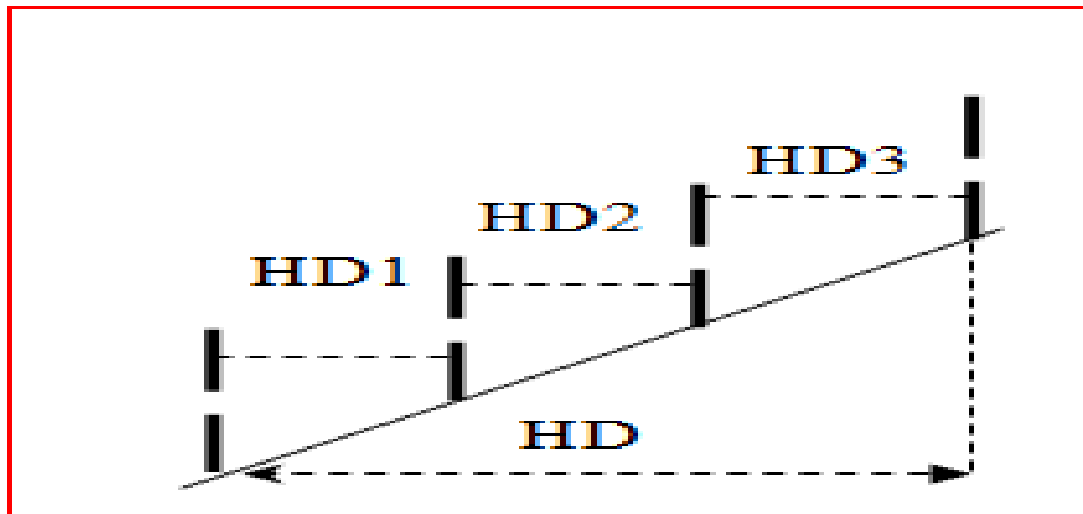

Figure 2.6 Direct measurement of horizontal distance
- If there are breaks in slope along the survey line as shown in Figure 2.6, slope and distance measurements are taken for each slope class separately using water level, string and measuring tape
- The sum of the horizontal distances is equal to the horizontal distance between the end points of the survey line (HD). Therefore, $HD = HD1 + HD2 + HD3$